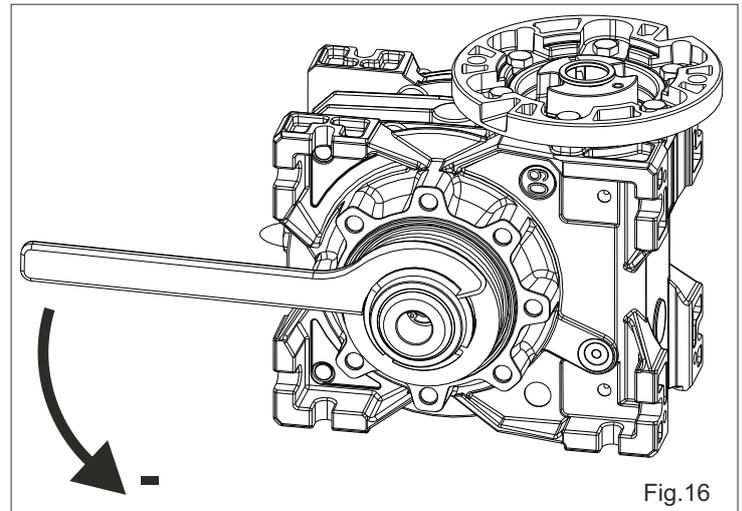

Fig.16
- **To reduce** torque, turn the key **counterclockwise** (Fig.16).